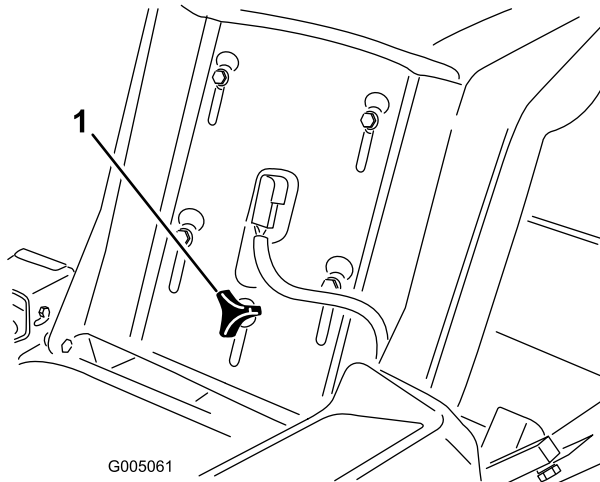

Figure 21
1. Raise the seat and loosen the adjustment knob just enough that seat can move (Figure 21).